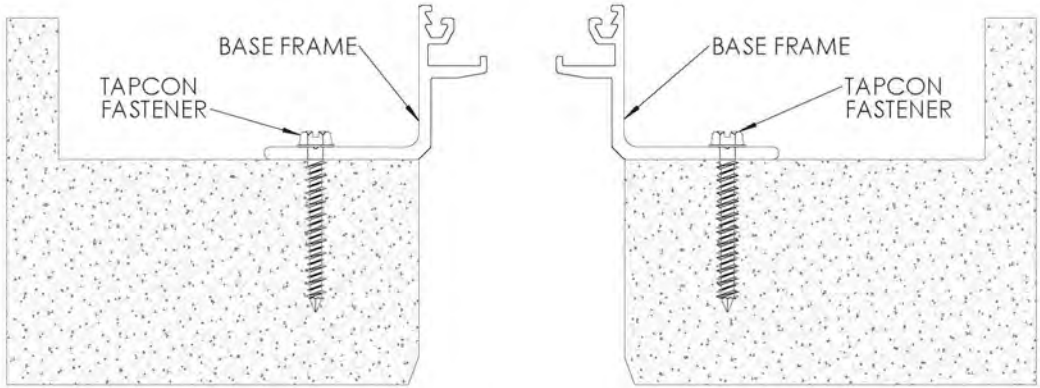

FIGURE 2
- 2. Position base member frames in blockout per shop drawings. Using the frames as a template, mark and drill 5/32” holes in the concrete. Install base member frames in the blockout opening with supplied Tapcon fasteners, making sure not to over tighten. **See Figure 2**